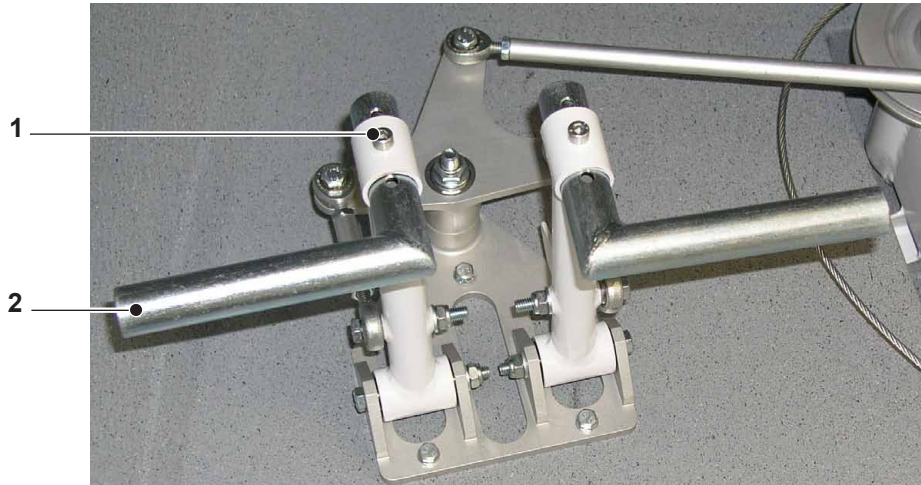

Fig.14 - Adjustable pedals
2.6.g.a Adjusting pedal position (Fig. 14)